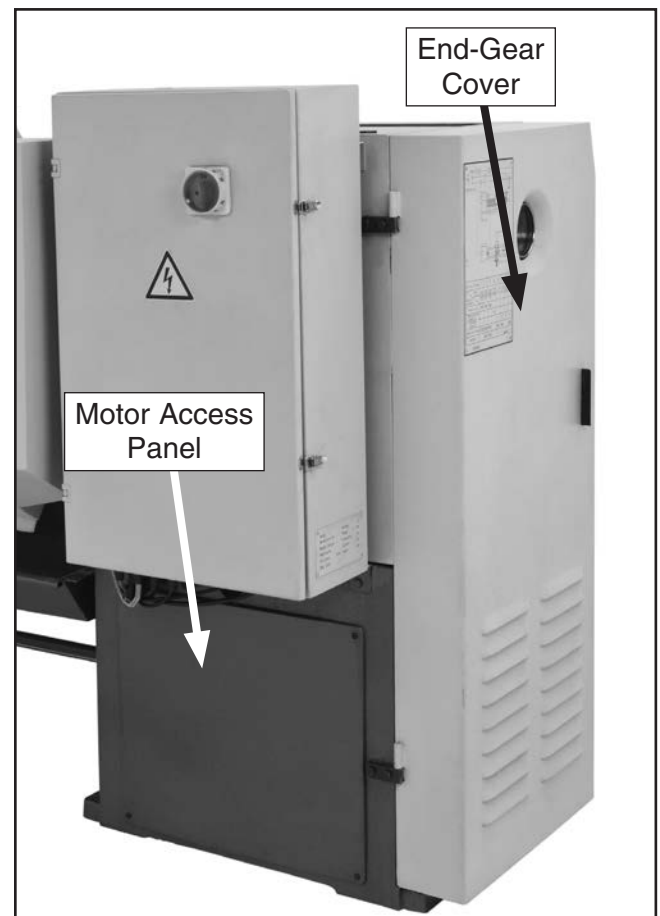

Figure 134. End-gear cover and motor access panel location.
2. Open the end-gear cover and remove the motor access panel to expose the V-belts, pulleys, and motor (see **Figure 134**).
- Open the end-gear cover and remove the motor access panel (see **Figure 134** on **Page 81**).